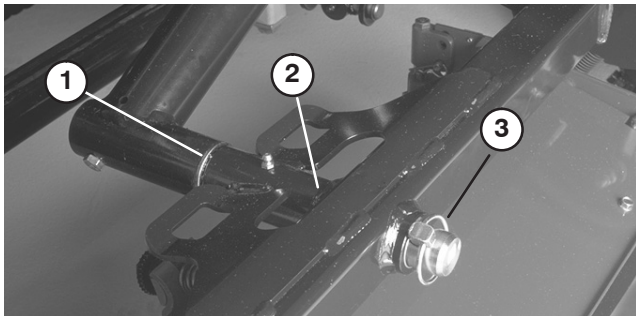

Figure 18
2. Slide cutting unit carrier frame onto pivot rod and secure with a lynch pin (Fig. 18).